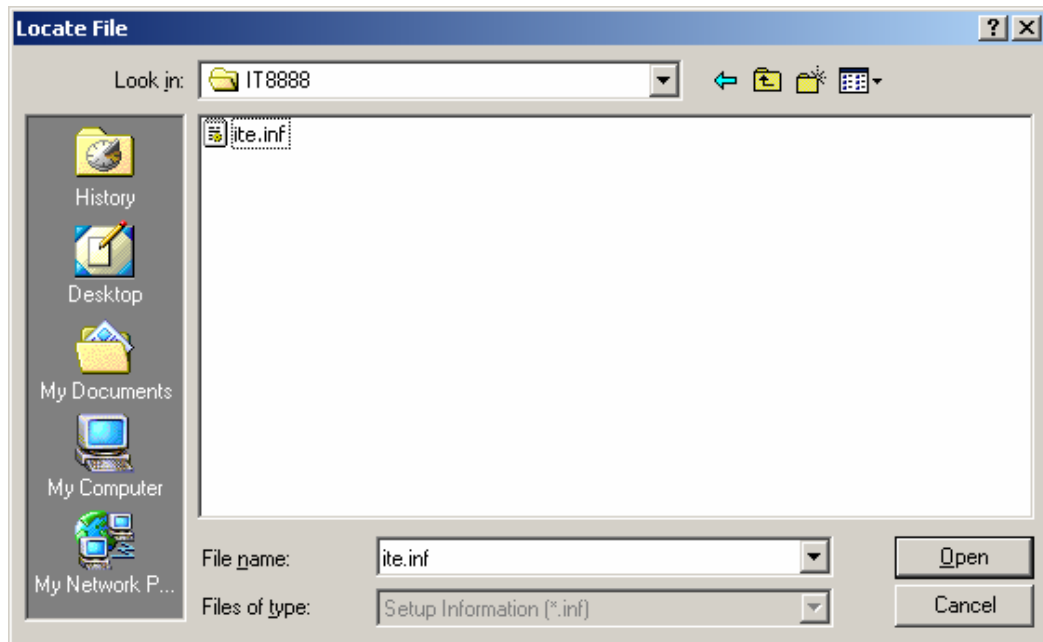

Figure 7-42: Location Browsing Window
Step 8: Select "X:\IT8888" directory in the location browsing window, where "X:\\" is the system CD drive (Figure 7-42).